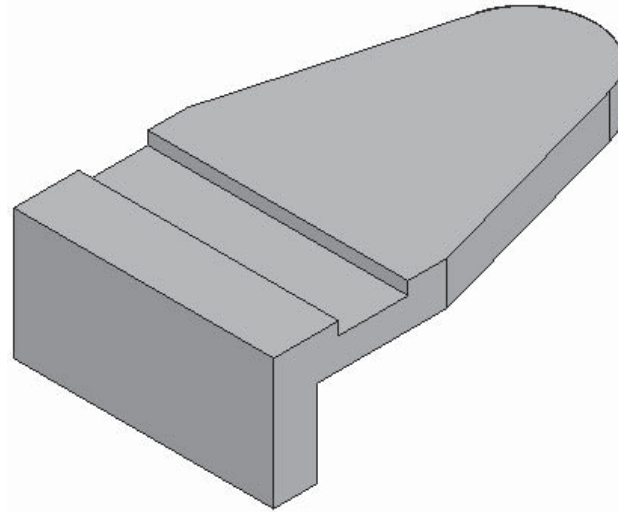

Figure 4-60 Model after creating the second feature
- Select the top planar face of the base feature as the sketching plane and then create the second feature, refer to Figure 4-60.
8. Choose **Finish** from the ribbon bar to complete the feature. The model, after creating the second feature, is shown in Figure 4-60.